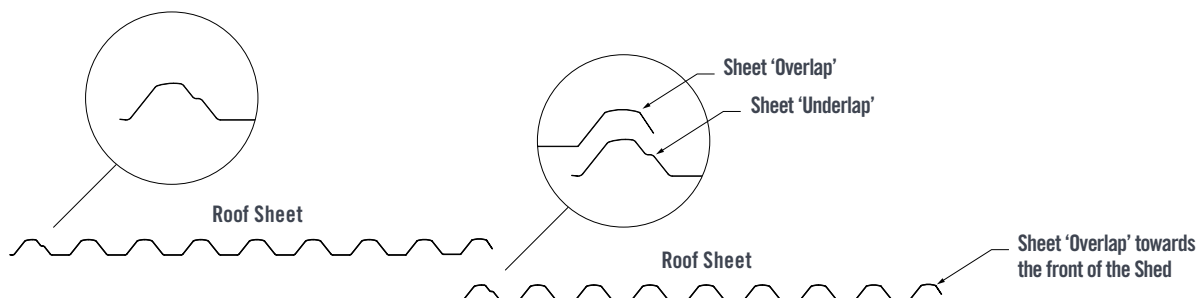
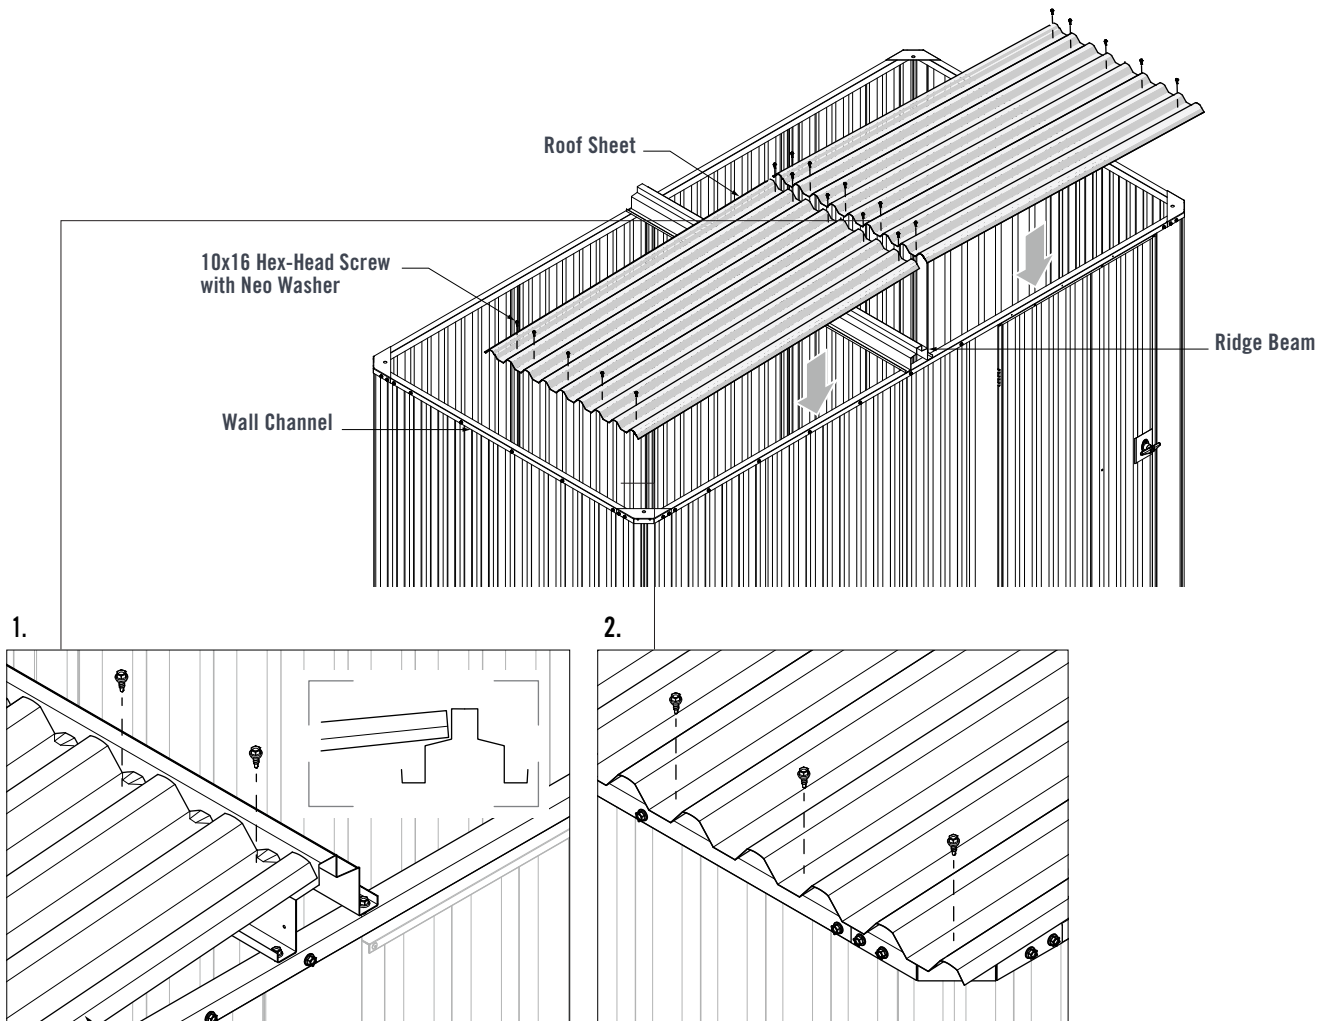
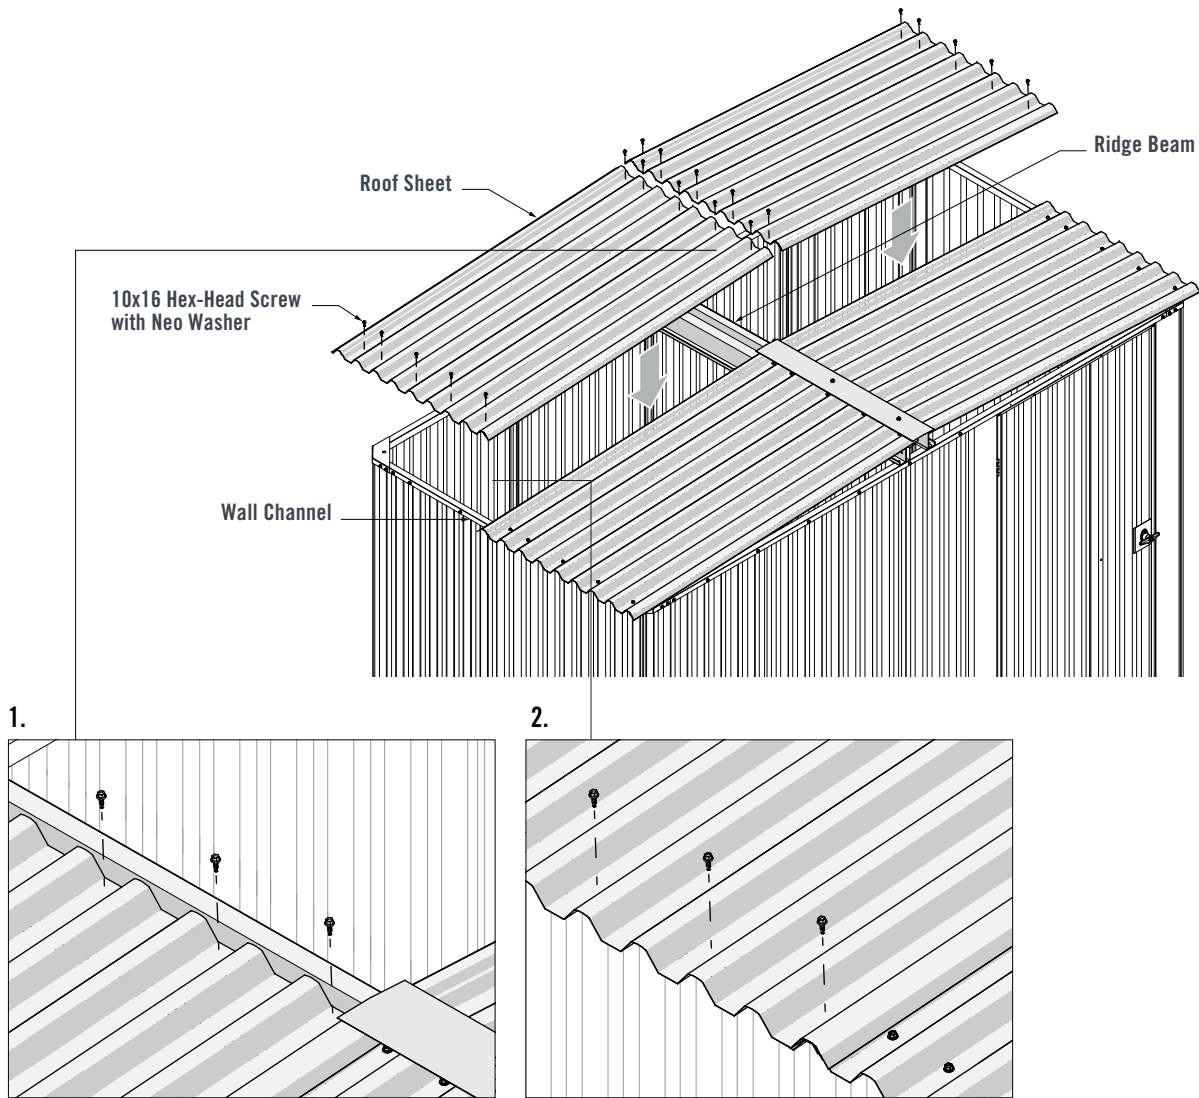

FIGURE 7.2
FIGURE 7.4
FIGURE 7.6
Refer to the sheet layout below when installing Roof Sheets (Figure 7.2).
Refer to Figure 7.2 for Sheet layout. Lay a Roof Sheet onto the Ridge Beam and Wall Channel, ensuring the overlap end of the Roof Sheet is facing the front of the shed (Figure 7.4).
1. Ensure the end of the Roof Sheet is in-line with the end of the Ridge Beam. Fasten five 10x16 Hex-Head Screws with Neo Washers through the pans of the Roof Sheet and into the Ridge Beam (Figure 7.4).
2. Fasten five 10x16 Hex-Head Screws with Neo Washers through the pans of the Roof Sheet and into the Wall Channel (Figure 7.4).
Refer to Sheet layout in Figure 7.2. Lay the next Roof Sheet onto the Ridge Beam and Wall Channel, ensuring the overlap end of the Roof Sheet is facing the front of the shed (Figure 7.6).
1. Ensure the Roof Sheet is hard against the step of the Ridge Beam. Fasten five 10x16 Hex-Head Screws with Neo Washers through the pans of the Roof Sheet and into the Ridge Beam (Figure 7.6).
2. Fasten five 10x16 Hex-Head Screws with Neo Washers through the pans of the Roof Sheet and into the Wall Channel (Figure 7.6).